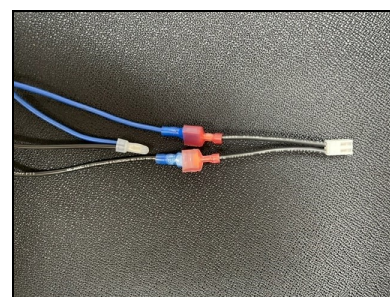

Figure 3- Connecting Wires
- If your unit is equipped with an "LP" switch, the "LP" switch and "HP" switch must now be wired in series. See Figure 3.